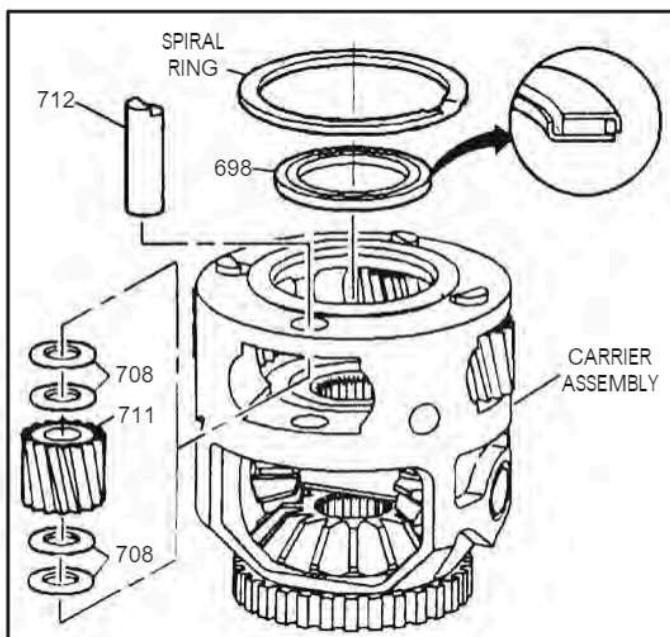

Figure 87
11. Install the differential carrier sun gear thrust bearing (698) into the carrier (See Figure 87). **Note:** Some ratio final drive carriers, this is a *trapped* bearing and **must** be installed **before** installing the pinion gears.
13. Install two pinion gear washers (708) on each side of the pinion gear (711) and retain with "Trans-Jel" (See Figure 87).
14. Install the pinion gear assemblies into final drive carrier housing (See Figure 87).
15. Install each planetary pinion gear pins (712).
16. Install the spiral snap ring (See Figure 87).